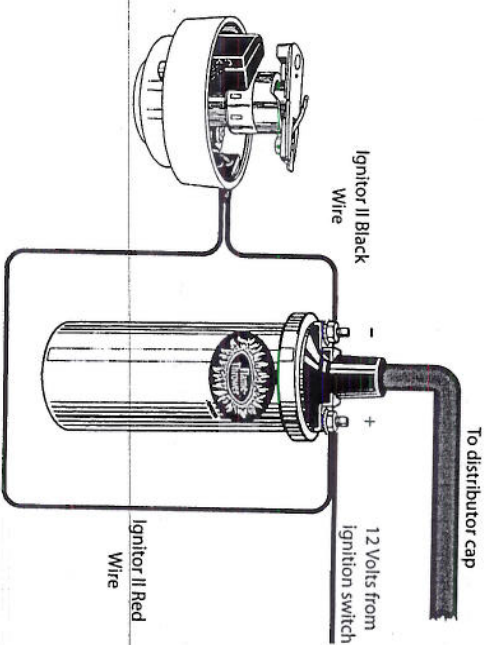

FIGURE 2
B. Alternative: The Ignitor II can also be installed in applications retaining the ballast resistor or resistance wire. (See Figure 2)